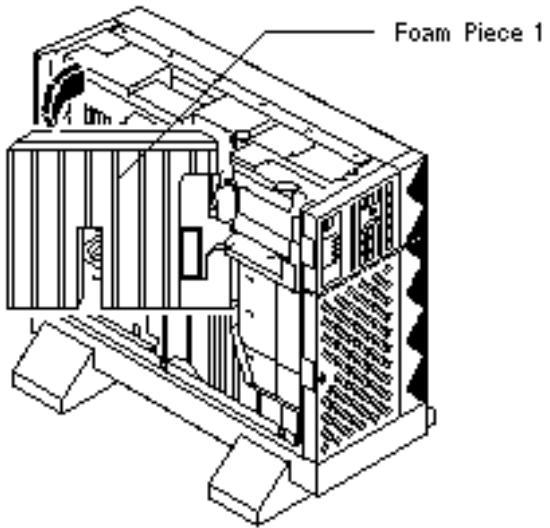

Figure 2-6 Pulling the Left Side of Foam Piece 1
5. **Pull the left side of Foam Piece 1 out of the chassis (Figure 2-6).**